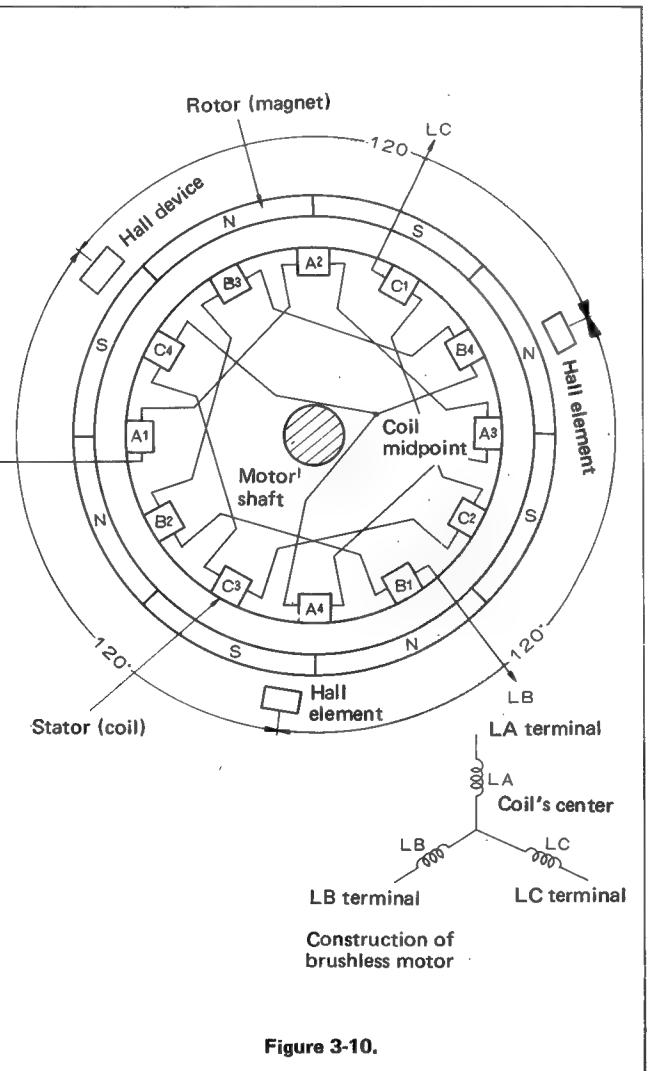
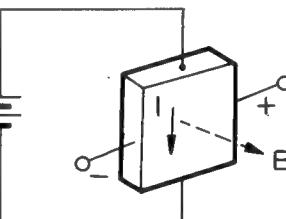

Figure 3-10.
Figure 3-11.
As the rotor rotates some  $30^\circ$ , Tr5 turns off and Tr6 on. Now the rotating magnetic field of the stator has rotated  $60^\circ$  and appears as (2). The rotor therefore rotates in the direction of arrow to the position of (3). Thus transistors' switching and rotation of the rotor continue. This is the operating principle of the brushless motor. Actually when used as a direct-drive motor, it has more poles to cope with variation of speed due to torque variation and to remove caking due to low speed, and it is given larger torque and inertia to improve efficiency and stability of speed. This is realized by the out rotor having a large diameter. The brushless motor actually used has a 3-phase, 4-coil, 8-pole-core out rotor. (See Figure 3-10.) The position of the rotor is detected by three Hall devices and an ICI704) switches motor coil current depending on the output of the Hall devices to control rotation. The Hall device is a metal or semiconductor chip made to detect magnetic field. If magnetic field  $B$  is applied to a semiconductor through which current  $I$  is flowing (see Figure 3-11), a voltage develops in the direction which is perpendicular to both the current and the magnetic field. The voltage is proportional to the intensity of magnetic field  $B$  and the direction of the voltage is determined by the direction of the magnetic field. This is called the Hall effect and this is made use of to detect the position of the rotor.